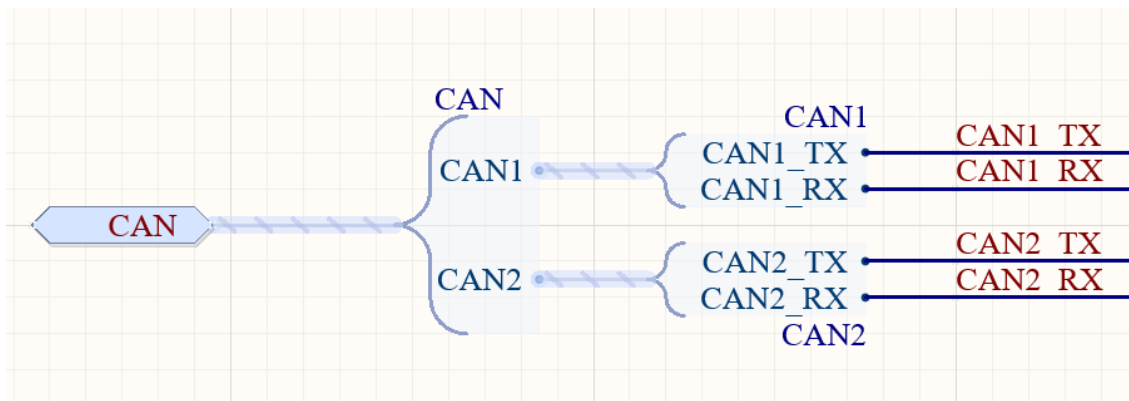

Figure 19. Page 7_can_rc_i2c_analog.SchDoc with nested CAN harness
49. From the **Place** menu, or from the *ActiveBar*, place a **Signal Harness** to connect the new CAN1 Harness Entry to the CAN1 Signal Harness, as shown in Figure 19. Feel free to change the size of the Harness Connector CAN if needed.
50. Repeat the process above to connect the CAN2 Harness Entry to the CAN2 Signal Harness. Your end result should look similar to Figure 19.